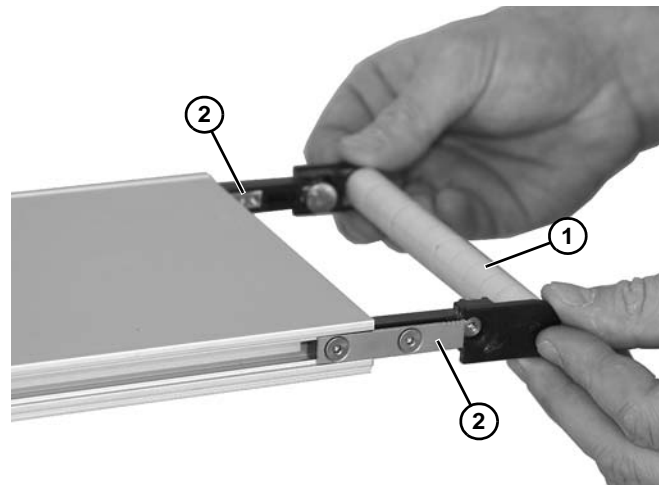

Figure 44
2. Assemble the idler spindle bearings (**Figure 44, item 1**) onto shaft onto each tail plate as shown and raise idler spindle assembly T-bars (**Figure 44, item 2**) to the conveyor frame.